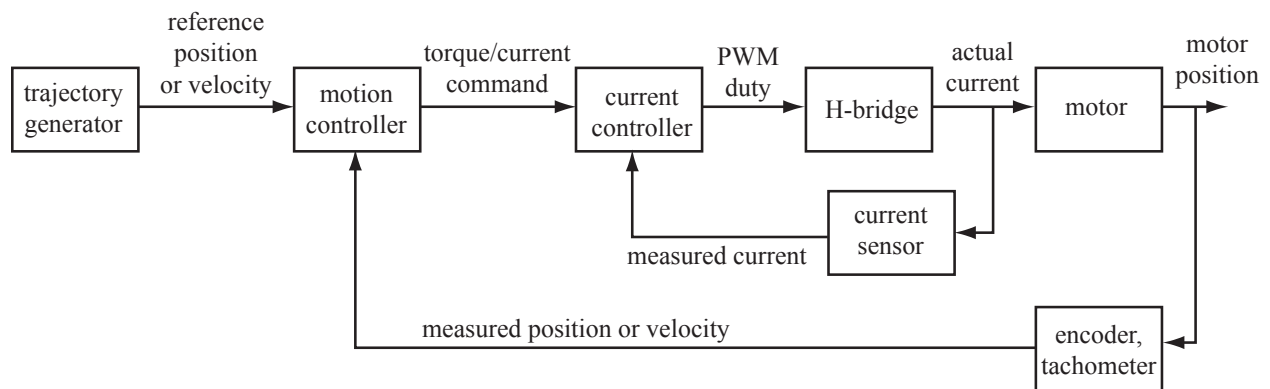

Figure 15.10: A block diagram for motion control.
An example block diagram for control of a DC motor is shown in Figure 15.10.2 A trajectory generator creates a reference position as a function of time. To drive the motor to follow this reference trajectory, we use two nested control loops: an outer motion control loop and an inner current control loop. These two loops are roughly motivated by the two time scales of the system: the mechanical time constant of the motor and load and the electrical time constant of the motor.
2A simpler block diagram would have the Motion Controller block directly output a PWM duty cycle to an H-bridge, with no inner-loop control of the actual motor current. This is sufficient for most applications. However, the block diagram in Figure 15.10 is more typical of industrial implementations.
Copley Controls, <http://www.copleycontrols.com>, is a well known manufacturer of amplifiers for brushed and brushless motors for industrial applications and robotics. One of their models is the Accelus, pictured in Figure 15.13. The Accelus supports a number of different operating modes. Examples include control of motor current or velocity to be proportional to either an analog voltage input or the duty cycle of a PWM input. A microcontroller on the Accelus interprets the analog input or PWM duty cycle and implements a controller similar to that in Figure 15.10.
15. Clearly outline how you would implement the motor controller in Figure 15.10 in software on a PIC32. Indicate what peripherals, ISRs, NU32 functions, and global variables you might use. You may use concepts from the LED brightness control project, if it is helpful. In particular, indicate how you would implement: